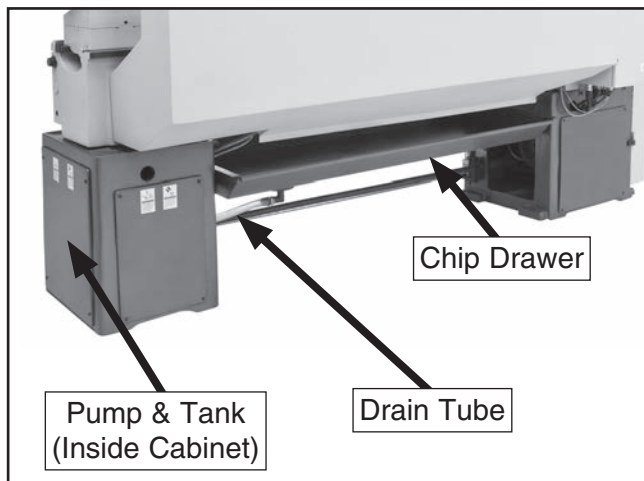
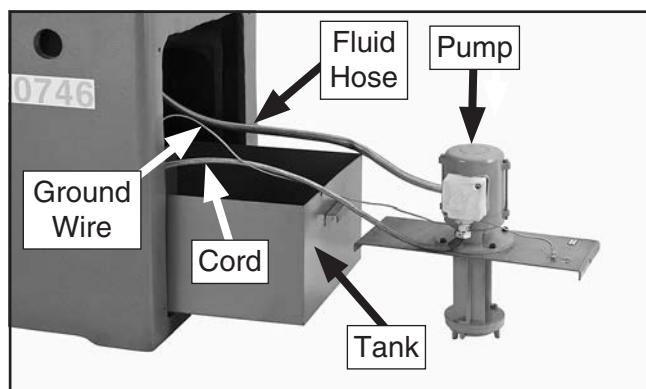

Figure 124. Additional coolant components.
Figure 125. Coolant tank and pump.
2. Remove the access cover from the side of the right stand, then slide the tank out, as shown in **Figure 125**.
Note: The fluid hose, pump cord, and ground wire (see **Figure 125**) were purposely left long, so the tank can be removed and dumped out without disconnecting them from the tank. However, the drain tube (see **Figure 124** on **Page 72**) may come out of the tank when you empty it.